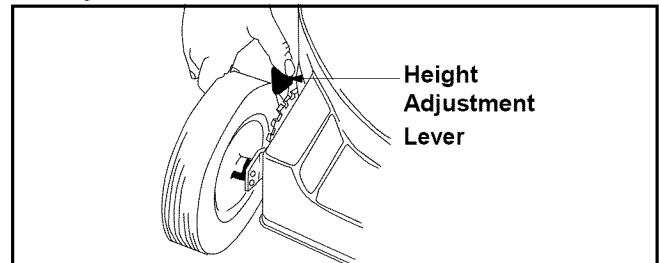

Figure 20
- Simply depress the lever towards the wheel and move the lever assembly to desired position. See Figure 20 .